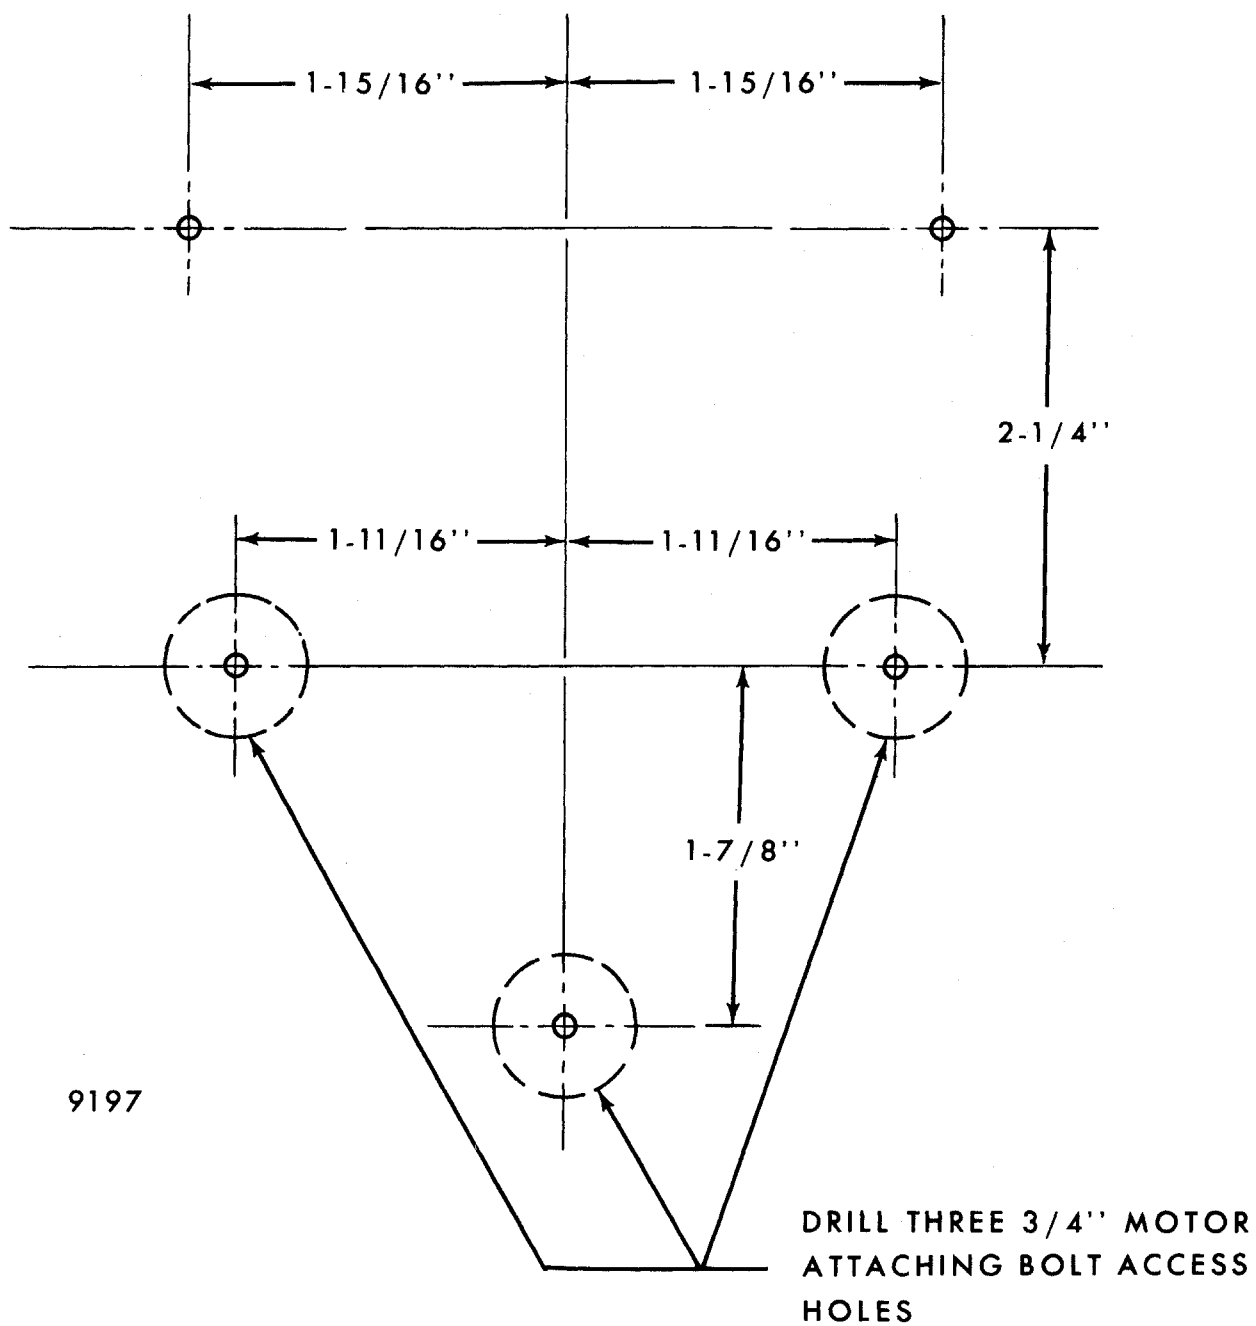

Fig. 5-61-Window Regulator Reference Points for Locating Window Motor to Regulator Attaching Bolts - E Styles
3. For all except B and C styles and A style front doors, refer to Figures 5-61 through 5-66 and select the appropriate template for locating window motor to regulator attaching bolts by using window regulator to door inner panel attaching rivets as reference points.